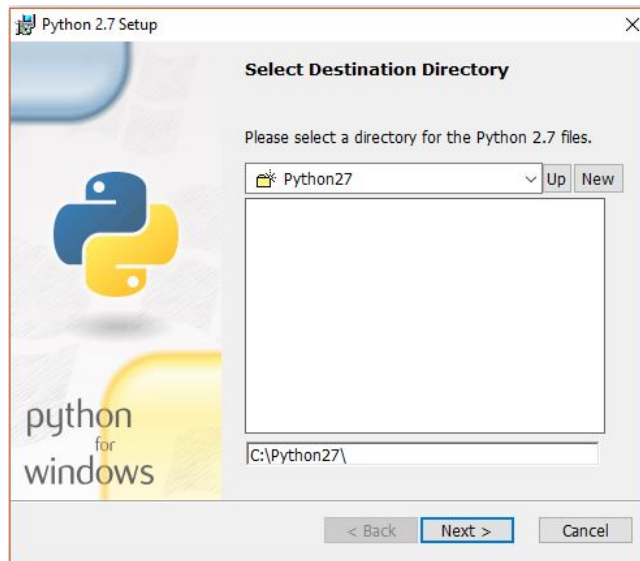

Figure 41. AFE5832 GUI Install (Destination Directory)
10. Allow the software to be installed in the default destination directory as in Figure 41.